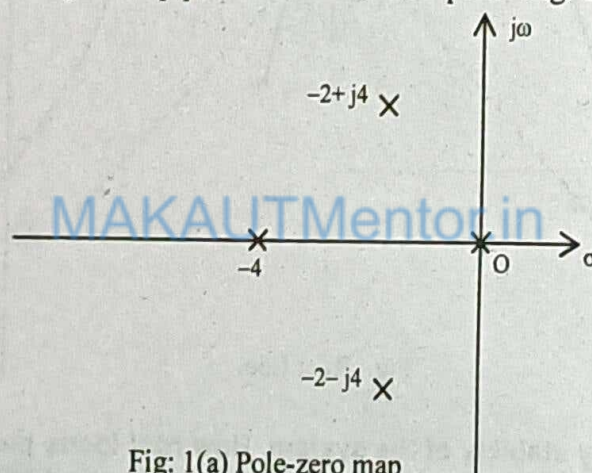

Fig: 1(a) Pole-zero map
Step 2: Plot the open loop poles and zeros on s-plane Fig. 1(a)